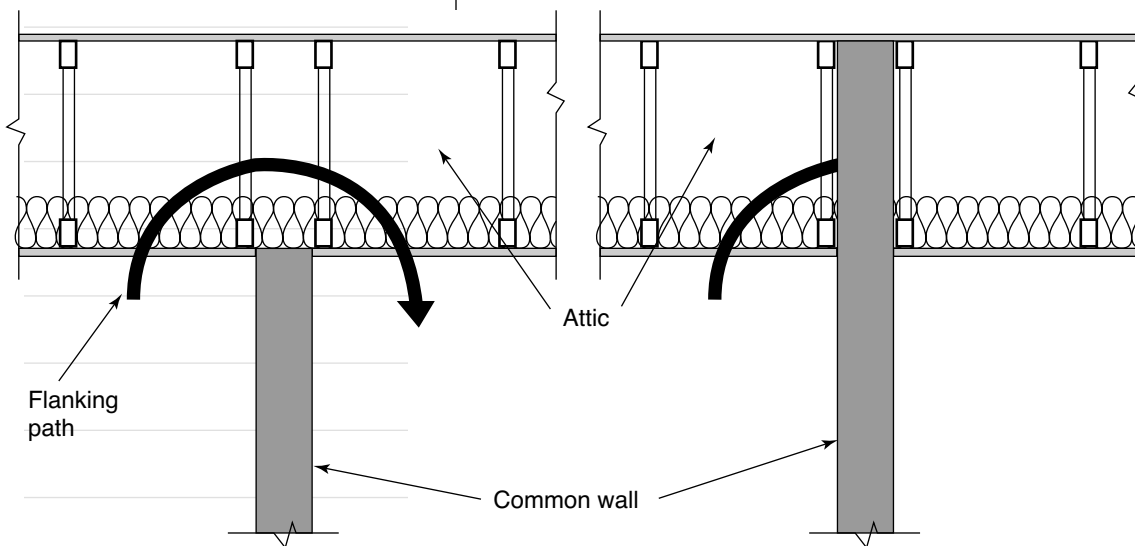

FIGURE 16
- ◆ Extend the party wall to the roof (see Figure 16).